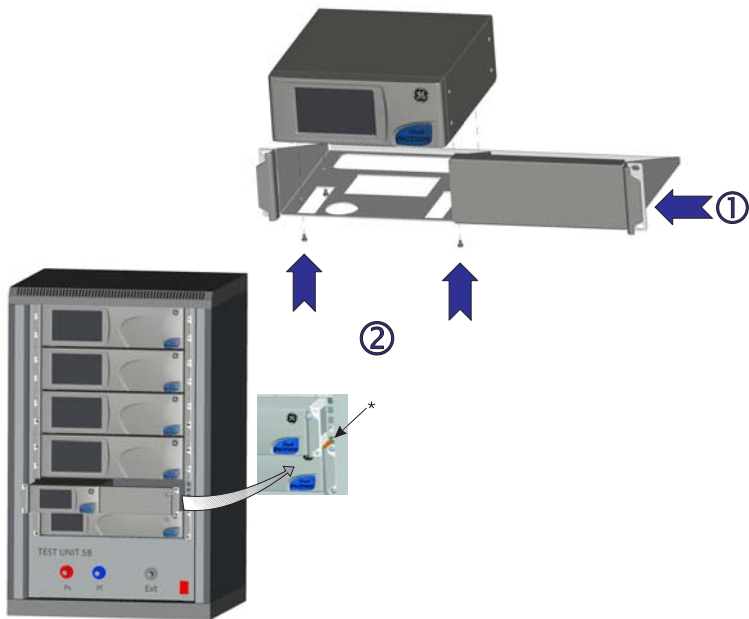

Figure 5 Rack-mounting
5.1 Rack-mount option (Figure 5)